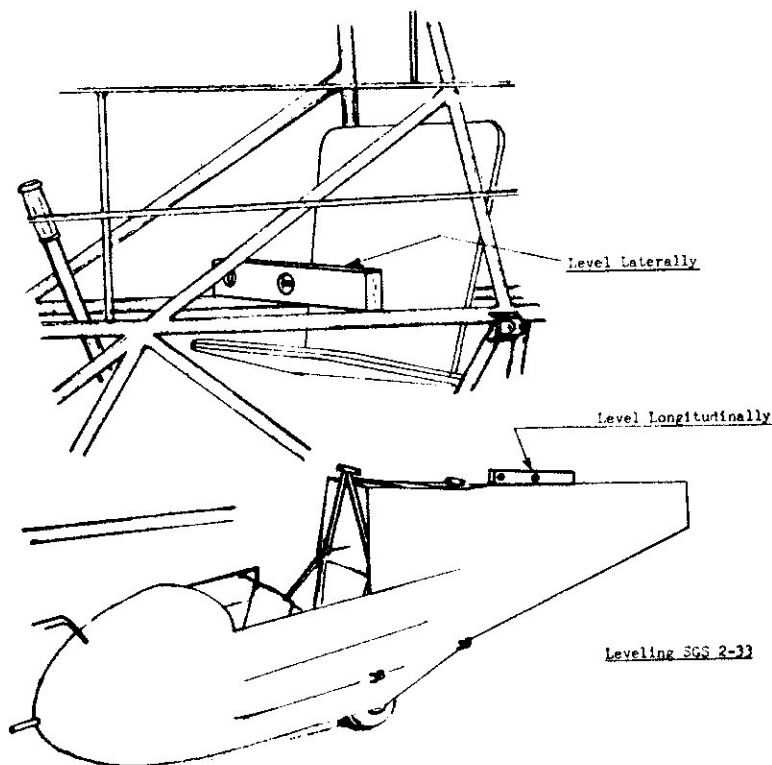

Figure 8-2
- a. To level fuselage laterally, prop up the wing tips and test for horizontal on fuselage members, see Figure 8-2.
- b. To level longitudinally, prop up the tail and test for horizontal on the top Longerons of fuselage aft of wing, see Figure 8-2.